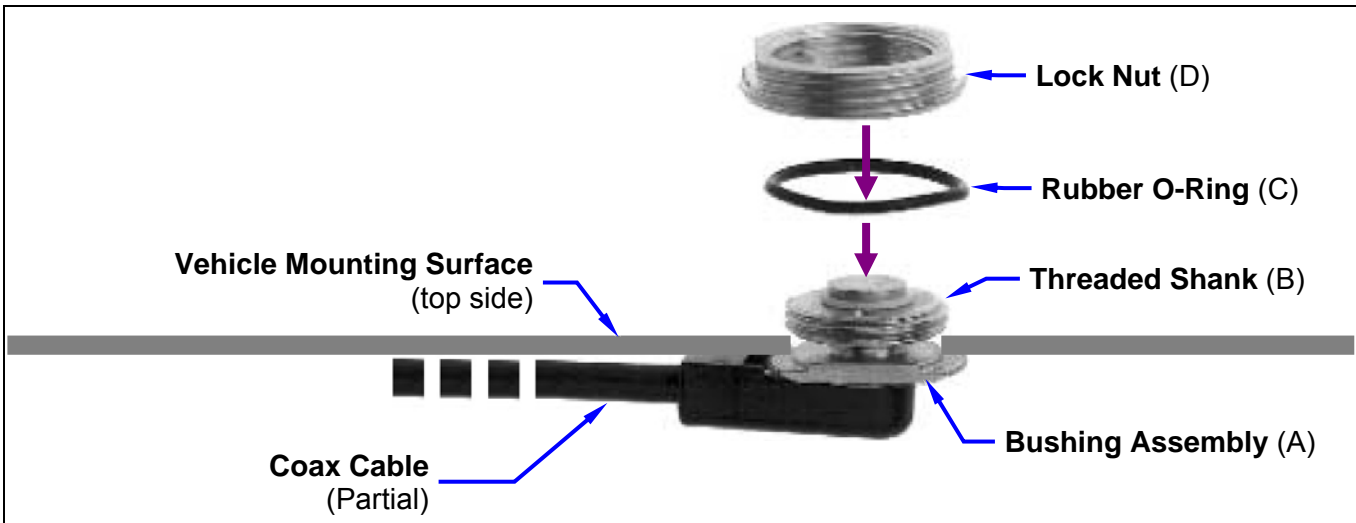
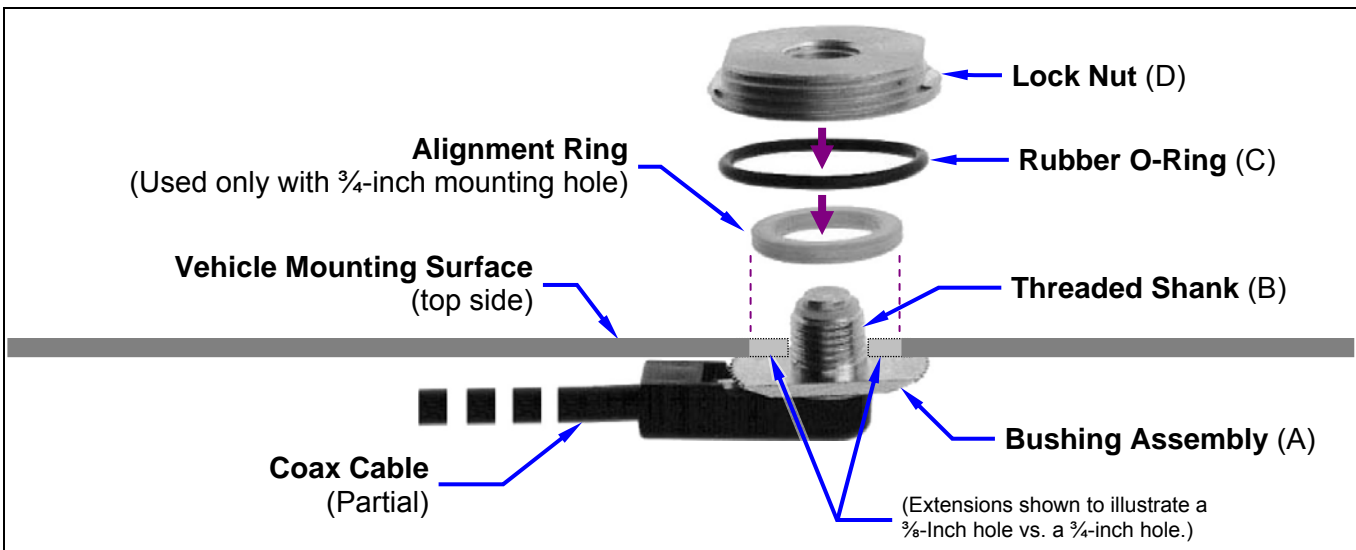

Figure 6-2: Installing a Standard $\frac{3}{4}$ -Inch NMO Antenna Mount
Figure 6-3: Installing a Thick-Roof NMO Antenna Mount
11. As illustrated in Figure 6-2 and Figure 6-3, add the O-ring (C) and lock nut (D) to the top of the mount's bushing assembly (A). With the O-ring in the groove in the underside of the lock nut, thread the lock nut onto the bushing assembly. Be sure the O-ring remains in the groove before tightening the lock nut.
2. Place the gasket included with the antenna element (not pictured in Figure 6-2 or Figure 6-3) around the mount and against the surface of the vehicle. If a lubricate or sealant was included with the gasket, apply it to the gasket before placing the gasket.